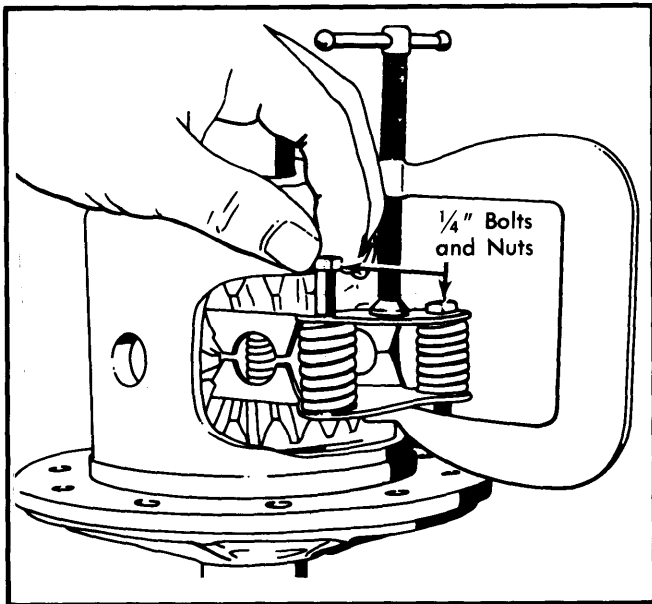

Fig. 7 Removing Preload Spring Pack
2) On Eaton and G.M. designs, remove preload spring assembly. When removing spring assembly on Eaton design, insert 2 bolts through spring plates and tighten enough to enable removal of spring assembly. See Fig. 7. Rotate 1 side gear to roll pinion gears to an opening where they can be removed. Remove side gear and clutch pack assemblies, noting which end of case each assembly is installed in.